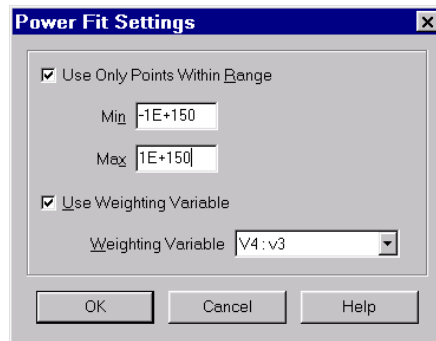

Figure 8-20. The Power Fit Settings dialog.
1. Click Curve Settings. The Power Fit Settings dialog appears, as shown in Figure 8-20.